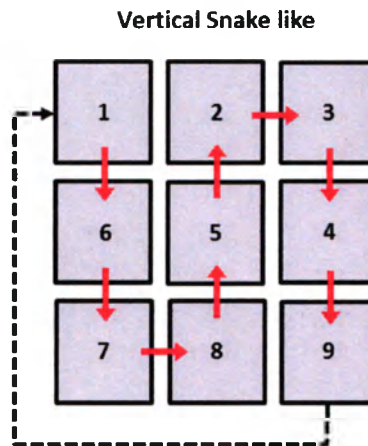

Figure 31: Cycle 1 – Step #2 “**Vertical Snake-Like**”
- Treat each segment of the sub-area (from 1 to 9) stacking two (2) pulses in the “**Vertical Snake-Like**” manner (see Figure 31). Continue treat each segment of the sub-area (from 1 to 9) stacking one pulse in the “**Vertical Snake-Like**” manner until the treated area reaches five full minutes of treatment.